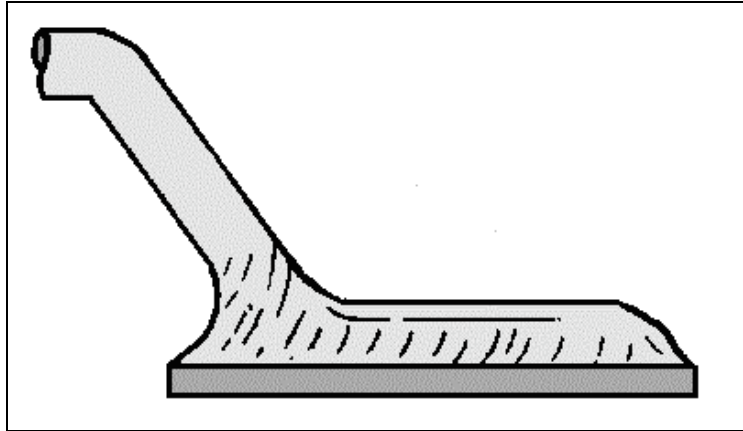

Figure 3-9.—On-the-board termination.
**ON-THE-BOARD TERMINATION.**—On-the-board termination (figure 3-9) is also called LAP FLOW termination. In a lap flow solder termination, the component lead does not pass through the circuit board. This form of planar mounting may be used with both round and flat leads.